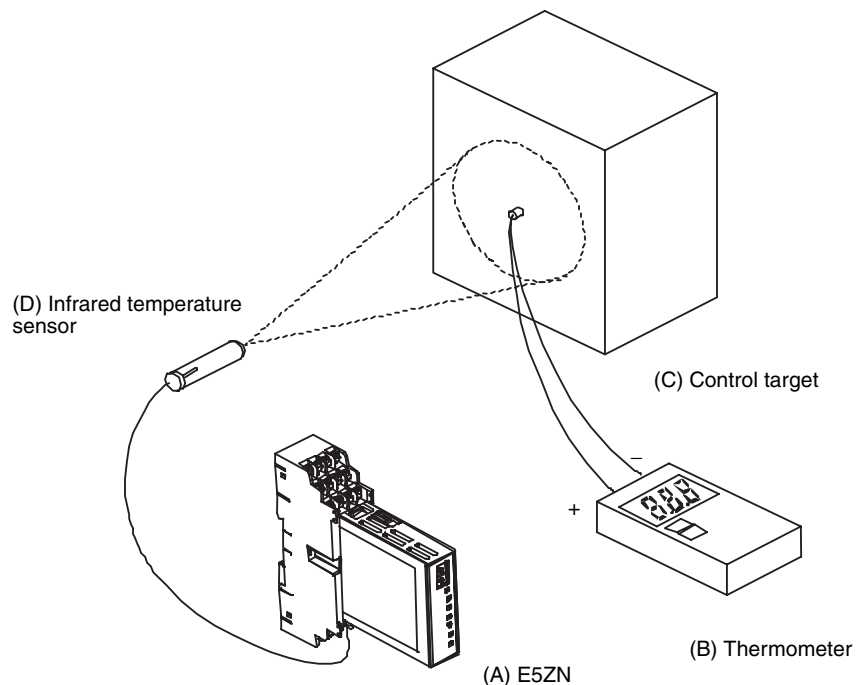

Figure 1 Configuration when Compensating an Infrared Temperature Sensor
2. Prepare a thermometer capable of measuring the temperature of the control target as shown in *Figure 1* so that one-point shift or two-point shift can be performed.
1. In the configuration shown in *Figure 1*, bring the SP to near the value at which the temperature of the control target is to be controlled. Let's assume that the control target temperature (C) and the control target temperature (B) are the same.
2. Check the control target temperature (B) and the Controller readout (A). Take the following value as the input shift value, and set the same numerical values for both the lower limit temperature input shift value and the upper limit temperature input shift value.